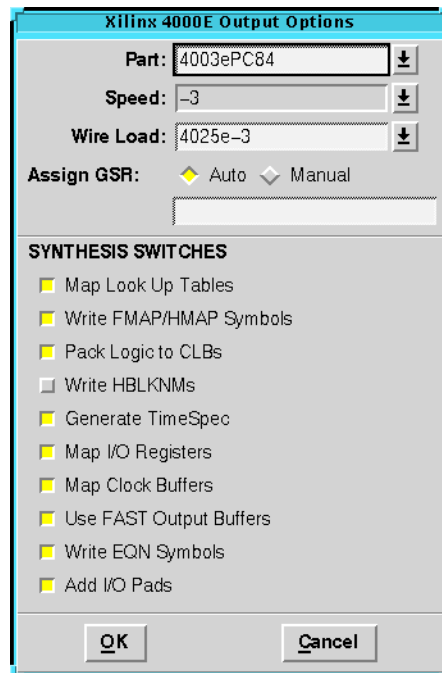

Figure 1-20 Xilinx 4000E Output Options
11. In the Output Design Area of the Galileo Main Window, click on the Xilinx 4000E Options button and make the following settings in the Xilinx 4000E Output Options dialog box that opens (see the following figure 1-20).